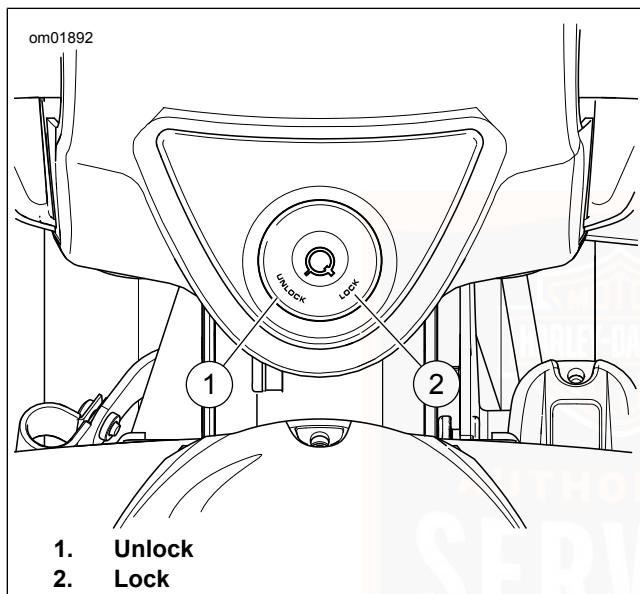

Figure 26. Fork Lock: Without Fairing
Without fairing: See Figure 26. The fork lock is at the top of the steering head, behind the headlamp nacelle and inset in the handlebar clamp shroud.
2. See Figure 26. Insert key and turn key counterclockwise to LOCK position. Remove key.